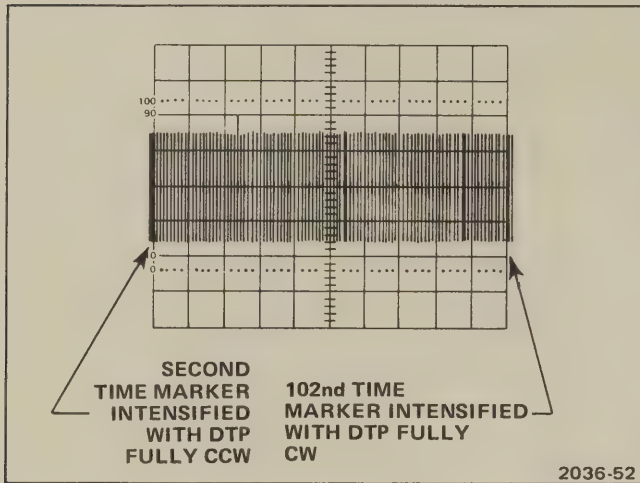

Fig. 6-3. Sweep start and stop adjustment (464, 465, or 466).
- Verify exactly one time marker per division. If not, adjust R1237 (465) or R1257 (464 and 466) for exactly one time marker per division.
- ADJUST**—R1115 to intensify the second time marker (see Figure 6-3).
- Horizontally position intensified time marker to first horizontal graticule line (see Figure 6-3).
- i. **ADJUST**—R1145 to intensify 102nd time marker at far right graticule line (see Figure 6-3).